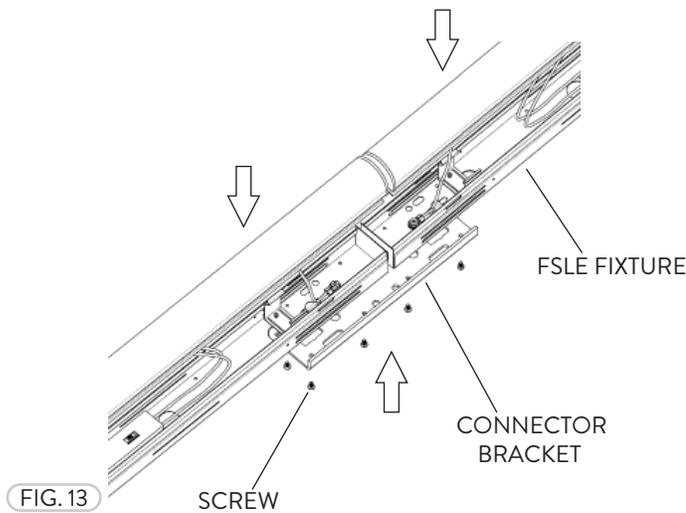

FIG. 13
- 2 Attach the Connector Bracket to both FSLE ends by aligning to the holes and installing the Screws (Fig. 13).